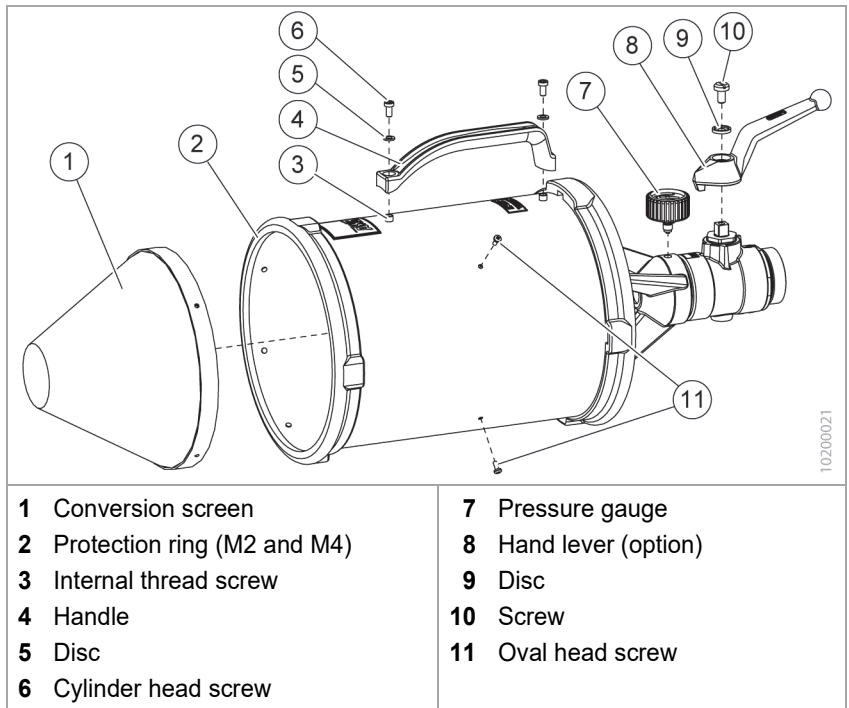

Fig. 3 Repair
1. Use a screwdriver to unscrew the three oval head screws (Fig. 3/11).
2. Remove the conversion screen (Fig. 3/1) from the foam tube.
1. Unscrew the cylinder head screws (Fig. 3/6).
2. Remove the handle (Fig. 3/4) from the foam tube.
3. Insert the cylinder head screws and the discs (Fig. 3/5) into the new handle.
4. Place the handle in the correct position on the internal thread screws (Fig. 3/3) and screw tight.
1. Unscrew the screw (Fig. 3/10).
4. Insert the screw and the disc (Fig. 3/9) into the new hand lever.
1. Lever the protection ring with studs out of the bores, and pull the protection ring (Fig. 3/1) off the foam tube.
1. Use a spanner A/F 14 to unscrew the pressure gauge (Fig. 3/3) from the nozzle body.